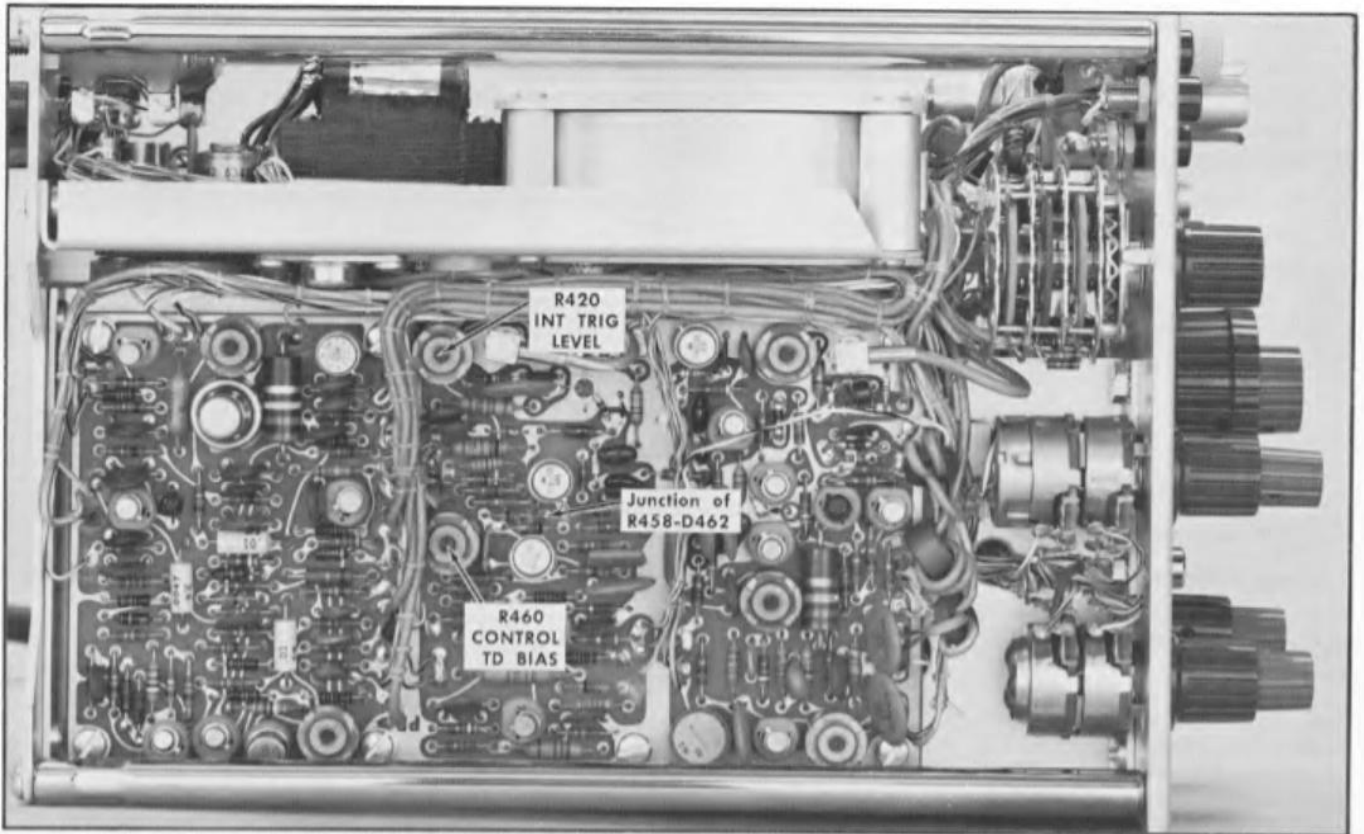

Fig. 5-10. Trigger circuit adjustments on right side of Type 151. (Unit is positioned upside-down on test bench.)
i. Adjust R420 (INT TRIG LEVEL) if the operation is not correct. See Fig. 5-10 for the location of R420.
- d. Connect the test probe to the junction of R458 and D462 (see Fig. 5-10).
i. Adjust R460 (CONTROL TD BIAS) if the display is not as indicated. See Fig. 5-10 for the location of R460.